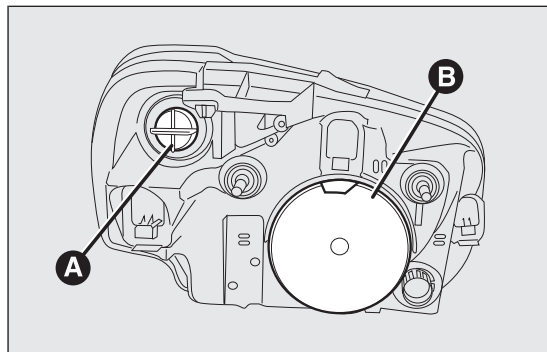
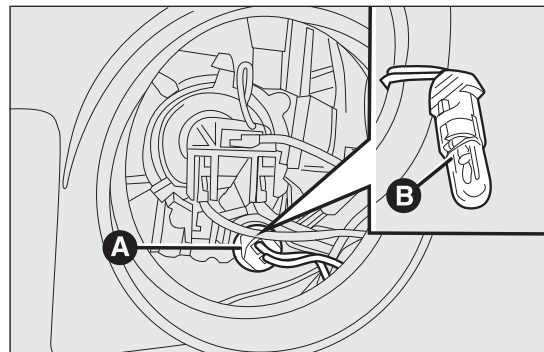

fig. 134
fig. 135
The front light clusters fig. 134 contain sidelight, dipped beam, main beam and direction indicator bulbs.
- ☐ remove the protective lid A fig. 134;
- ☐ turn the bulb holder A fig. 135 anticlockwise and remove it;
- ☐ refit the new bulb, insert the bulb holder A fig. 135 again and then refit the protective lid A fig. 134 correctly.
- ☐ refit the bulb holder clip and refit the protective lid A fig. 134 correctly.
- ☐ turn the protective lid B fig. 134 anticlockwise;